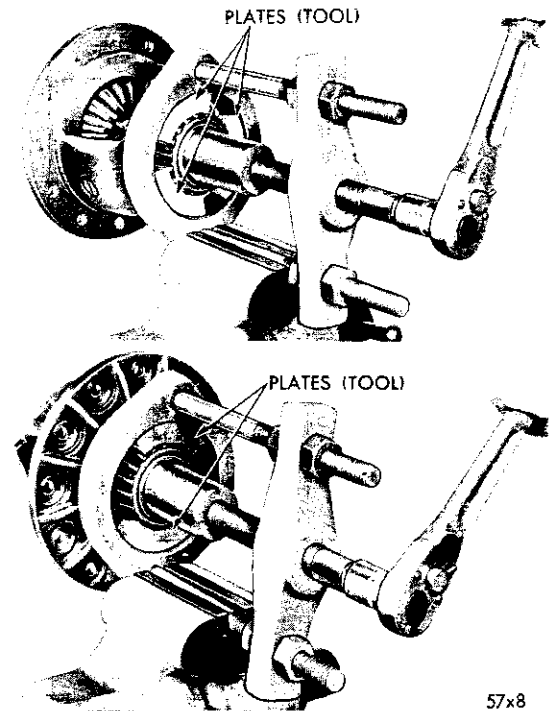

Fig. 14—Removing Differential Bearings
(2) Inspect the differential bearing cones and cups for pitting, spalling or other visible damage. If replacement is necessary, remove the bearings from the differential case with puller Tool C-293 and four adaptor plates No. 18 (Fig. 14).
(3) Inspect the differential case for elongated or enlarged pinion shaft holes, the side gear counterbores and the four thrust washer contacting surfaces for galling, metal deposits or raised portions of metal. If any of the above conditions exist, satisfactory correction must be made or the case replaced. Inspect the case for cracks or other visible damage which might render it unfit for further service.
(4) Inspect the differential pinion shaft for excessive wear. Replace as necessary.
(5) Inspect the differential pinion gears for excessive wear, cracks, chipped teeth or other visible damage. Replace pinion gears or thrust washers as necessary.
(6) Inspect the differential side gears for cracks, chipped teeth or other visible damage. Replace differential side gears or thrust washers as necessary.
(7) Inspect the axle shaft thrust block for excessive wear or visible damage. The thrust block is usually